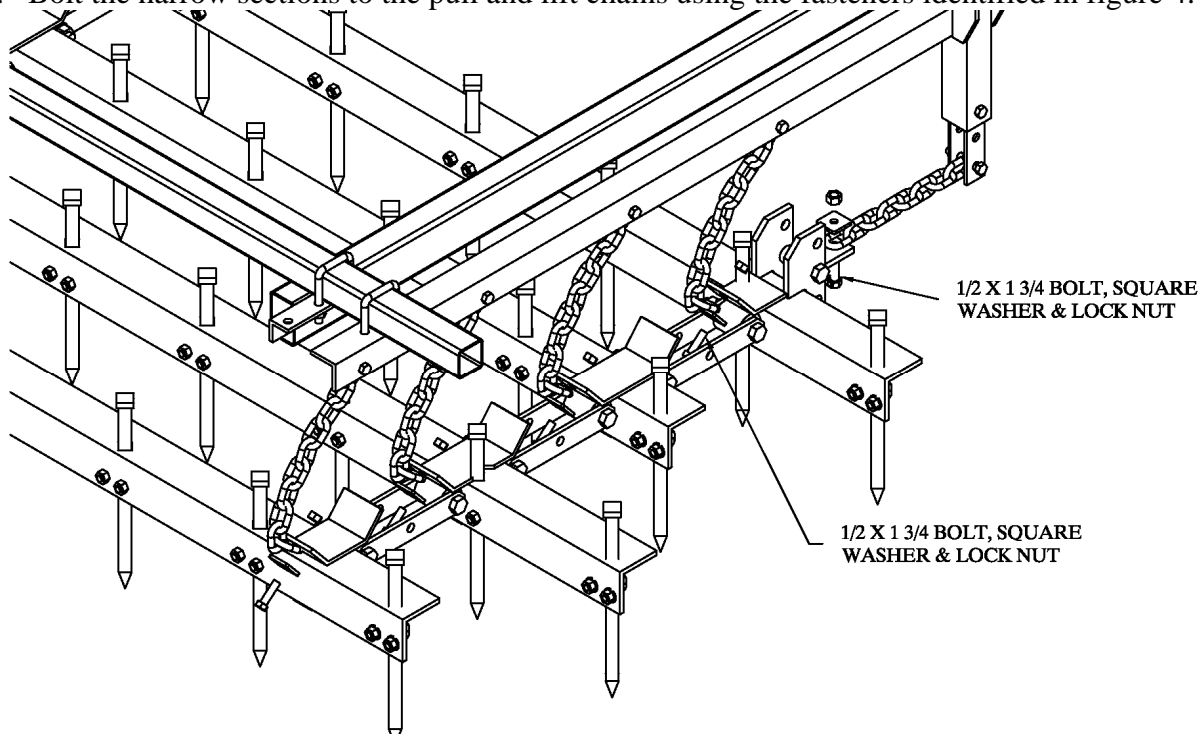

Figure 4
2. Bolt the harrow sections to the pull and lift chains using the fasteners identified in figure 4.